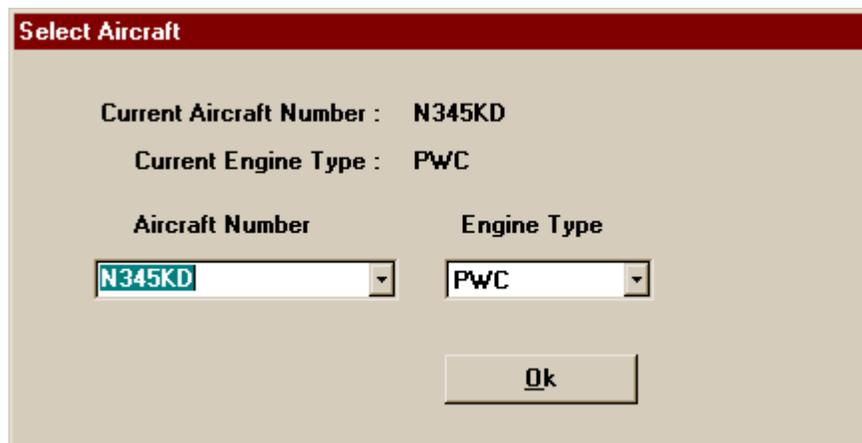

Figure 23. Select Aircraft Screen
3. In the Select Aircraft Screen, use TAB key (or mouse) to select the Aircraft Number field (refer to Figure 23).